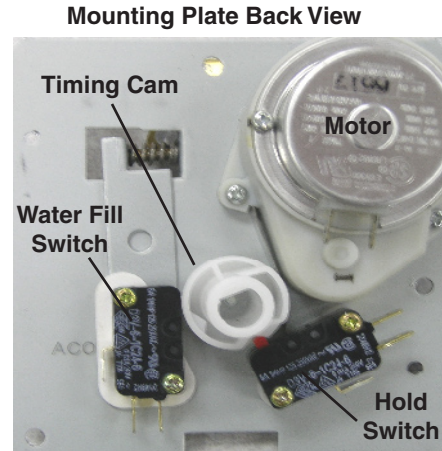

Figure F2
### Timing Switches (See Figure F2)
### Motor (Figure F2)
**To Replace Motor (Figure F2)**
**To Replace Water Fill Switch (Figure F2)**
**To Replace Hold Switch (Figure F2)**